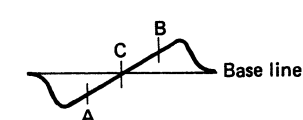

Fig. 2
- Use the T202 core to form the S-curve shown in Figure 2. Adjust the symmetry of A and B about point C for linearity.